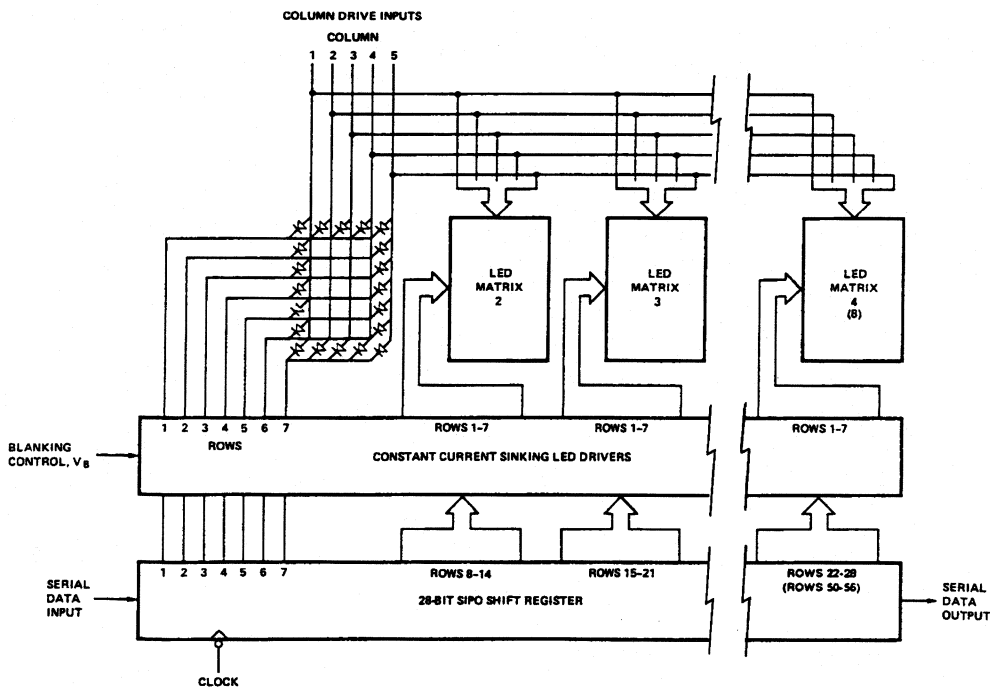

Figure 5. Block Diagram of an HCMS-27XX Series LED Alphanumeric Display.
Each display device contains four or eight 5x7 LED dot matrix characters and two or four CMOS integrated circuits, as shown in Figure 5. The CMOS integrated circuits form an on-board 28 bit or 56 bit serial-in-parallel-out shift register that will accept standard TTL logic levels. The Data Input pin is connected to bit position 1 and the Data Output pin is connected to bit position 28 (56). The shift register outputs control constant current sinking LED row drivers. The nominal current sink per LED driver is 11 mA. A logic 1 stored in the shift register enables the corresponding LED row driver and a logic 0 stored in the shift register disables the corresponding LED row driver.